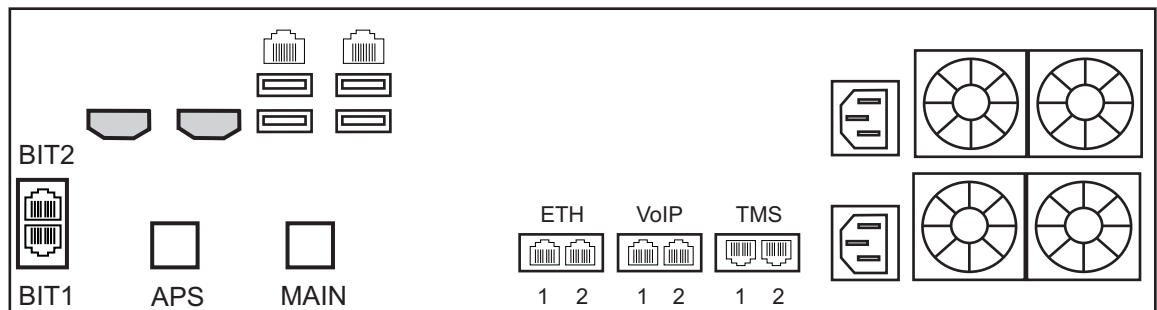

Figure 2.8 Optical Interface to the PSTN
A TMP5900, with one main and one backup OC3 or STM-1 port enables connection to OC3/STM-1 lines. See figure 2.8 on page 18. Refer to table 2.2 on page 18 for a listing of optical interfaces. The default OC3/STM-1 connection is SMF, intermediate reach, (SFP-OC3-IR1) 1310 nm with LC type connectors.
1. Connect a fiber optic cable between the Main port and OC3/STM-1 line, as shown in figure 2.8 on page 18.